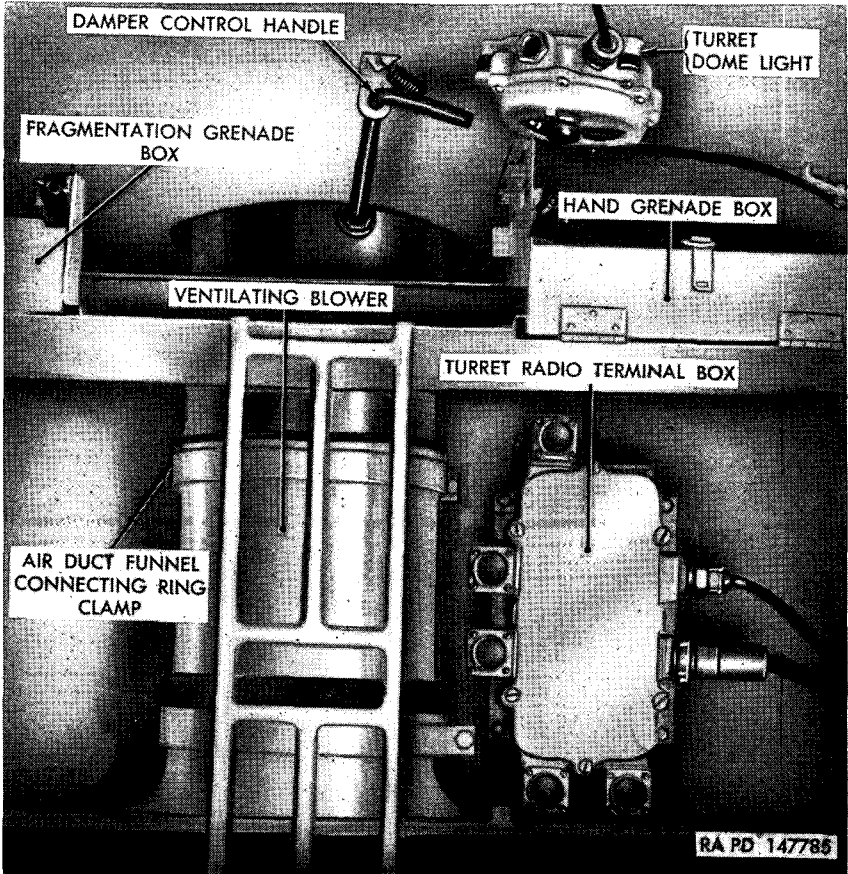

Figure 304. Ventilating blower and turret radio terminal box.
r. **VENTILATING BLOWER.** The ventilating blower is mounted in the rear of the turret (fig. 304). A handle is provided for damper control.
t. **TURRET DOME LIGHTS.** The two turret dome lights are mounted in the turret ceiling (fig. 304). They are of the same type as the hull dome lights (par. 29).
a. REMOVAL. Turn off master relay switch (fig. 18). Disconnect cable connector plugs at turret radio terminal box (fig. 304) and remove cables. Remove four lock washer screws securing box and remove box.
b. INSTALLATION. Position turret radio terminal box (fig. 304) to mounting bracket and secure with four lock washer screws. Connect cable connector plugs to terminal box receptacles.
a. **REMOVAL.** Unscrew damper control handle (fig. 304) and remove handle from ventilating blower fan and case assembly. Disconnect electrical cable from blower motor at base of motor. Loosen air duct funnel connecting ring clamp (fig. 304). Working outside the turret, remove turret ventilating blower cover (fig. 291) by removing four bolts. Remove ventilating blower ground strap. Remove ventilating blower and fan case assembly by removing six bolts securing assembly to turret structure.
b. **INSTALLATION.** Lower ventilating blower fan and case assembly through opening in turret structure and secure with six bolts and washers. Connect ventilating blower ground strap. Install blower cover (fig. 291) and secure with four bolts. Working inside the turret (fig. 304), tighten air duct funnel connecting ring clamp. Insert damper control handle through ceiling bracket and screw handle into blower fan and case assembly. Connect electrical cable at base of blower motor.